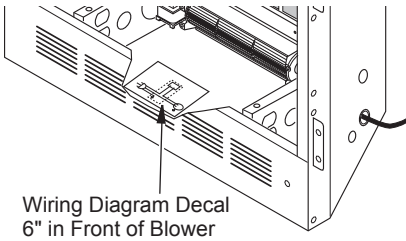

Figure 39 - Location of Wiring Diagram Decal (Model May Vary From Illustration)
10. Peel off backing paper and stick supplied wiring diagram decal on firebox bottom approximately 12" in front of blower (see Figure 39, page 24).
11. Peel off backing paper and stick supplied wiring diagram decal on firebox bottom approximately 12" in front of blower (see Figure 39, page 24).